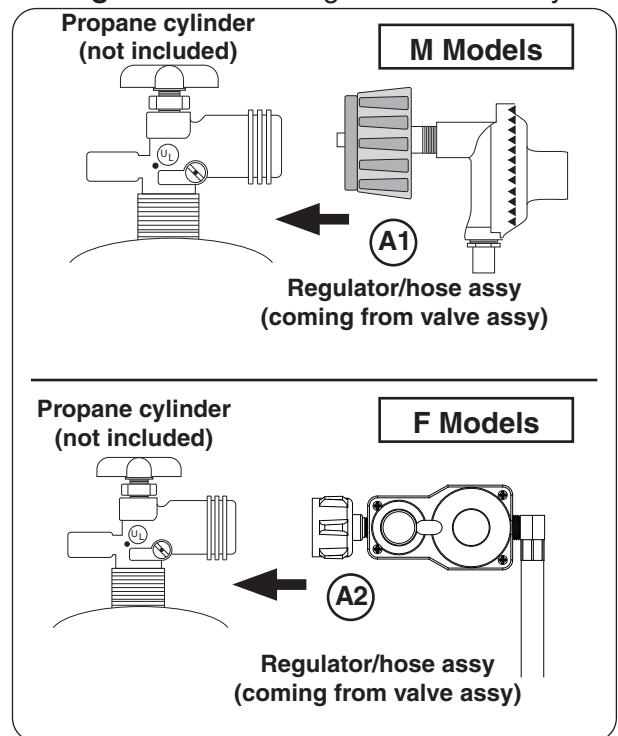

Fig. 31-2 Connecting hose assy to L.P. cylinder
2. Attach the regulator end of the hose assembly to a propane cylinder (not included) and tighten (see Fig. 31-2, A1 or A2).